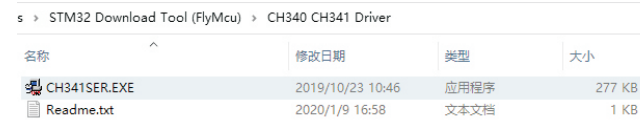

Figure 10 Double Click “CH341SER.EXE”
Step 1: Connect the USB communication port wire, double click the file “CH341SER.EXE” to install, as shown in **Figure 10**.